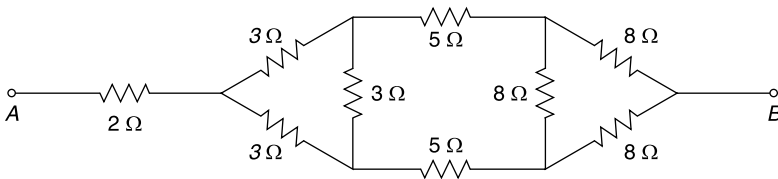

Fig. 4.59 Circuit of Ex. 4.42
4.42 Find the resistance across terminals AB for the circuit shown in Fig. 4.59.